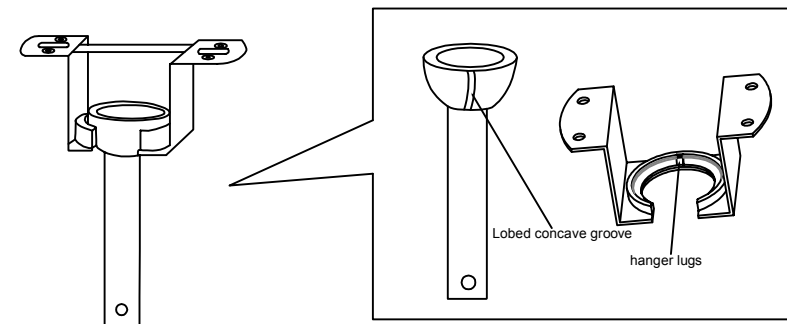

Figure2.3
- Place the lobes in the hanger and turn the pipe so that the groove on the lobes engages the lugs on the dome (inside the hanger) , The lug groove must engage the hanger lug (Figure 2.3).